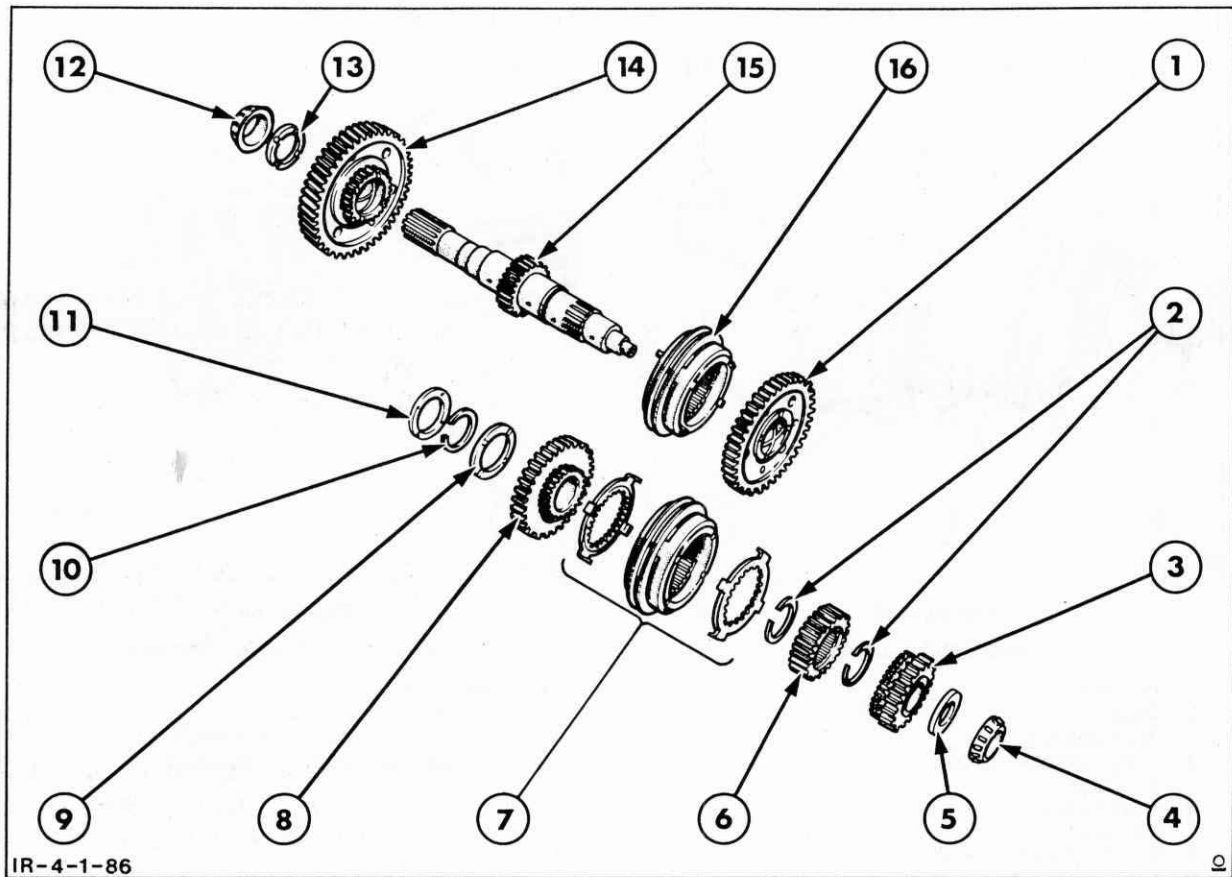

Figure 4-85
1. Thoroughly clean the output shaft components, Figure 4-85, with a suitable solvent, then blow dry with compressed air. Do not spin the bearings with compressed air.
Refer to Figure 4-85.